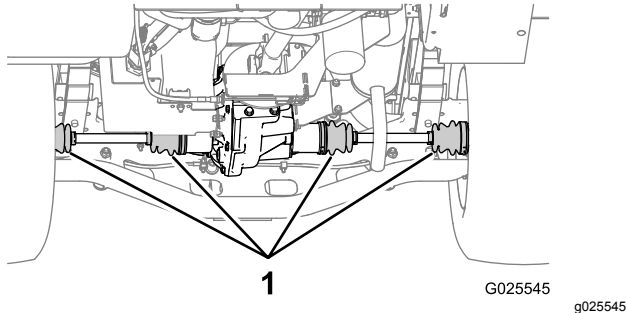

Figure 66
2. Check the CV (constant velocity) boots at the rear axles for damage and leaking lubricant (Figure 66).